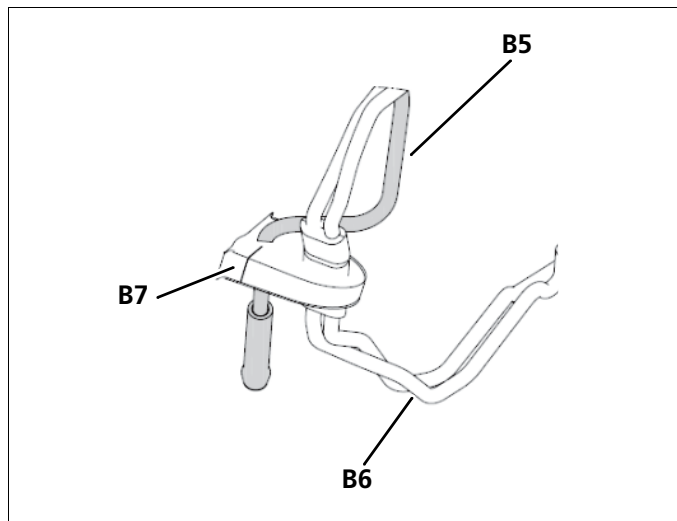

Fig. 915 Glow plug cable, grommet and fuel pipe
- Route glow plug cable (B6) as shown in Fig. 915 with a slight bend and slide grommet (B7) onto fuel pipe (B5).